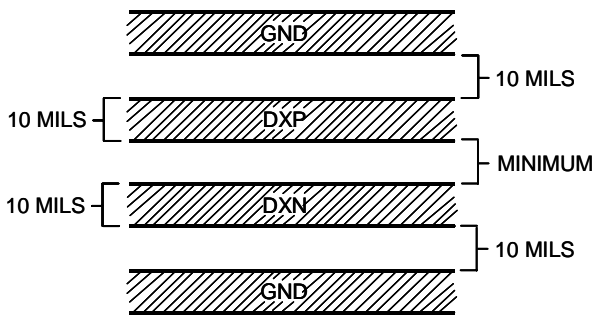

Fig 2 (b) Recommended DXP/DXN PC
Use wide traces. Narrow ones are more inductive and tend to pick up radiated noise. The 10 mil widths and spacing recommended on Figure 2 aren't absolutely necessary (as they offer only a minor improvement in leakage and noise), but try to use them where practical.
■ **Fig 2(a) Connect the common DXN as close as possible to the DXN pin on IC.**